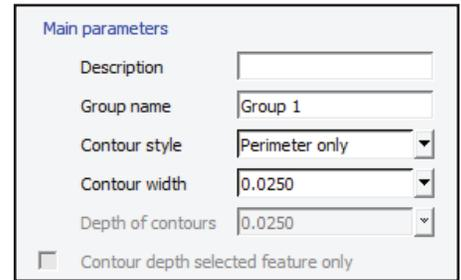

Figure 55: Custom group settings for solid fills using Perimeter only.
5.4.7. Define toolpath settings (Figure 55).